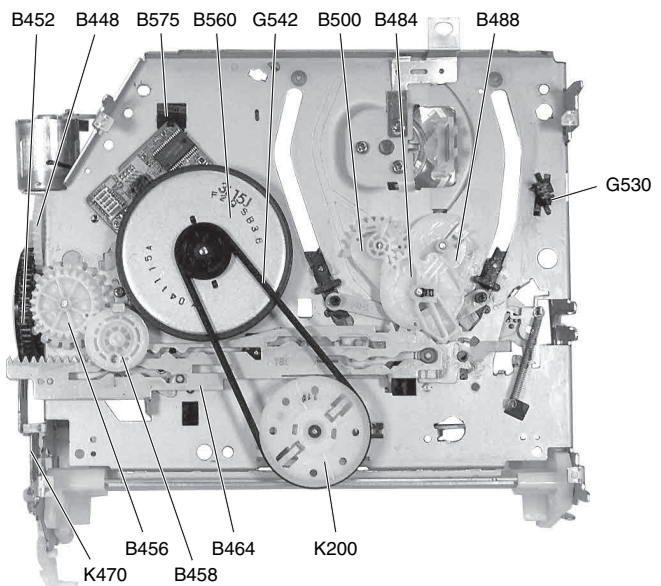

Fig. 2
- Remove the reel belt (G542, Fig. 2).